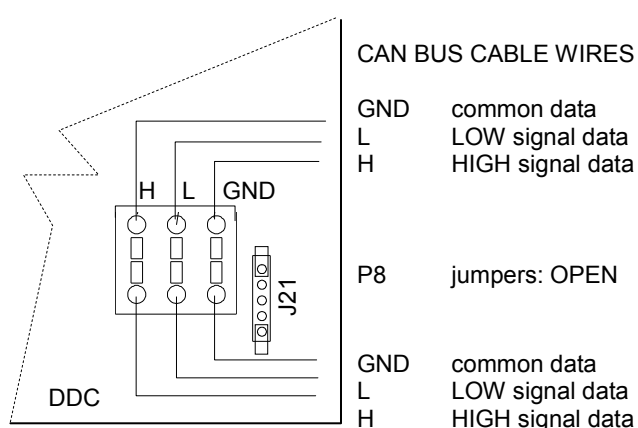

Figure 30 – Connecting 2 CAN BUS cables to the DDC: THE DDC IS AN INTERMEDIATE NODE. Note the position of the wires of the CAN BUS cable and the jumpers: OPEN
If the DDC is an **intermediate node** on the network (there are 6 wires attached to the orange connector): position the jumpers on the DDC as shown in Figure 30: OPEN.
7. **Only for intermediate nodes:** Repeat the operations from point 1 to point 4 for the remaining section of CAN BUS cable. Also perform point 5, but refer to Figure 30 on page 66 for connecting the cable to the connector.